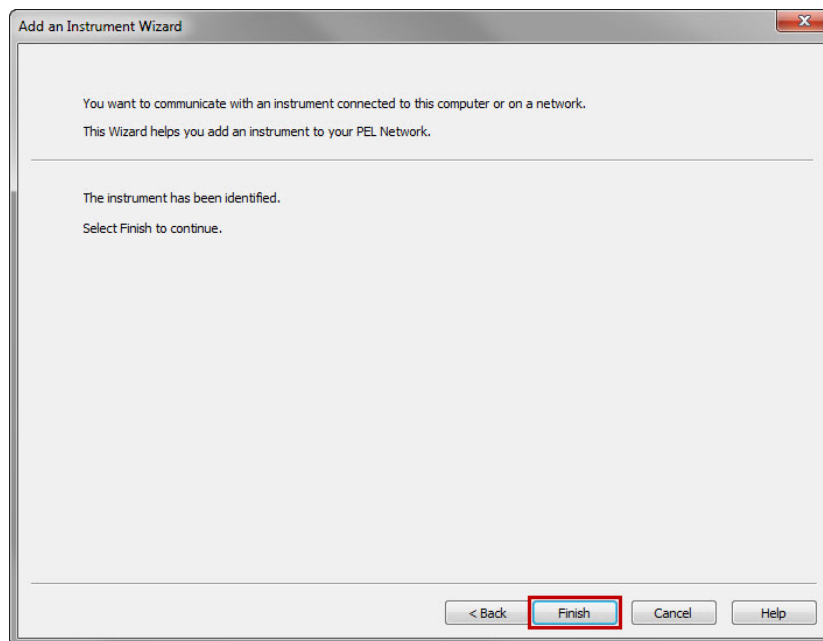

Figure 44
- If a successful connection was established, the Finish button will be enabled. Click **Finish** to exit the Wizard (see Figure 44).
- If a successful connection was established, the **Finish** button will be enabled. Click **Finish** to exit the Wizard (see Figure 44).